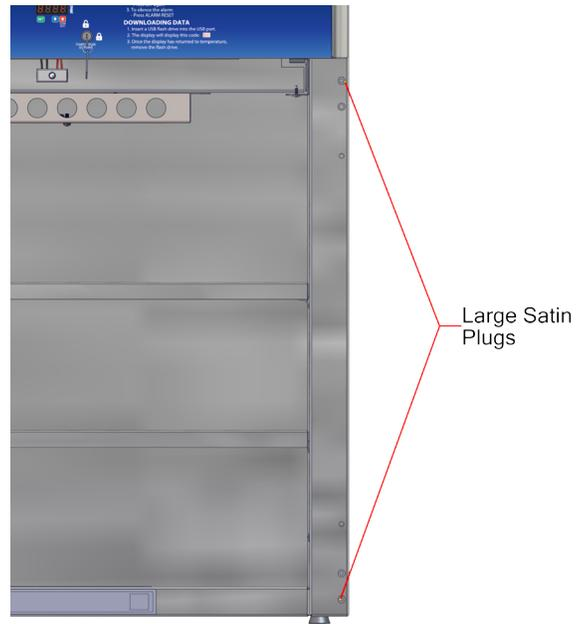

Fig. 13: Satin plug locations
14. Use a flathead screwdriver to remove the 2 large Satin plugs on the unit. The top and bottom large holes are the locations for the screws used to fasten the steel door hinges to the unit (Fig. 13).